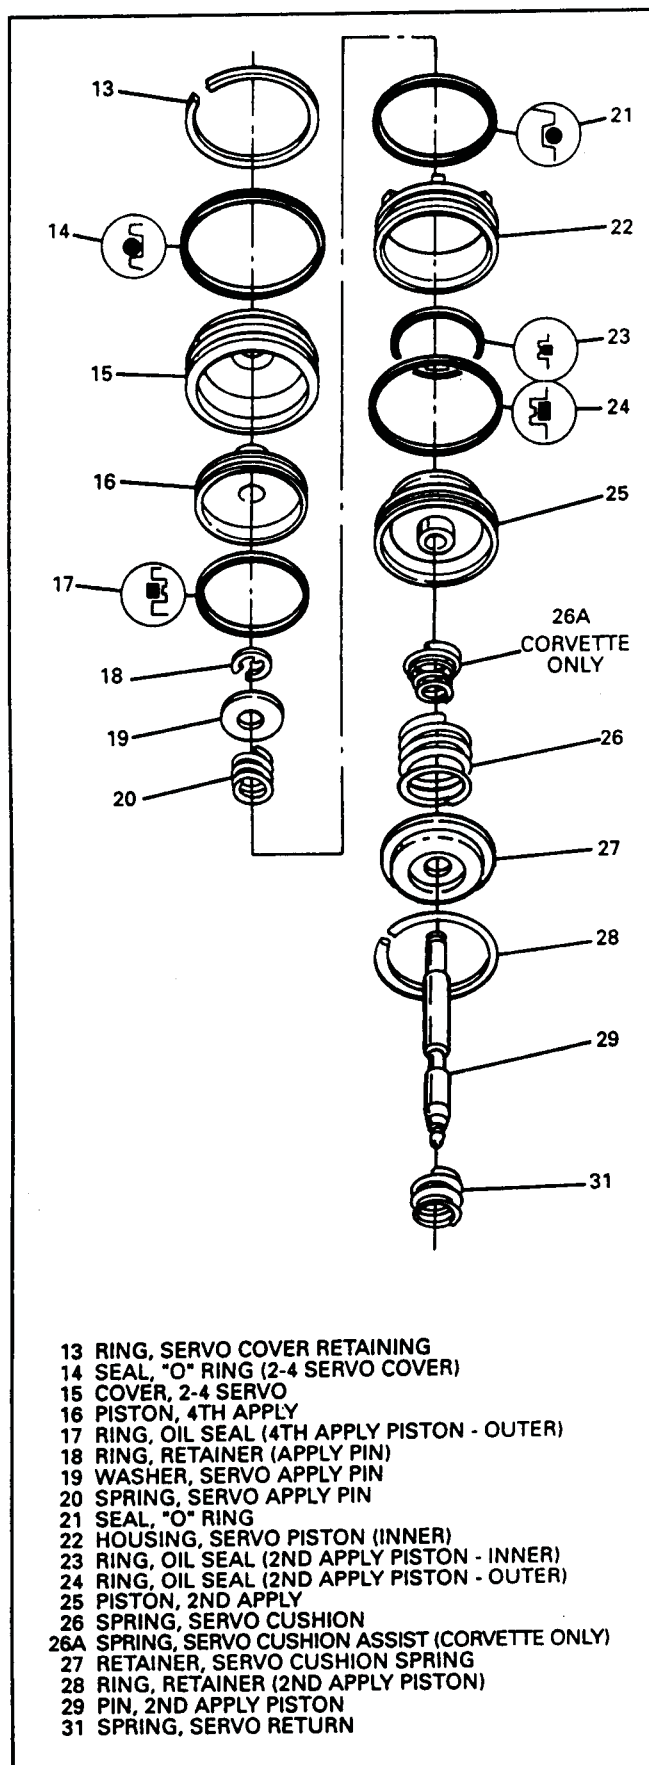

Figure 47
13. Use Figure 47 as a guide for the disassembly of the 2-4 servo parts.